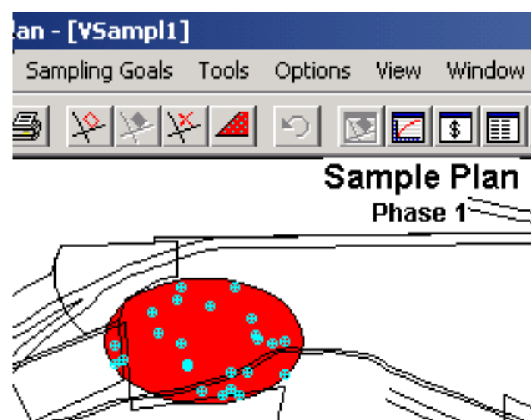
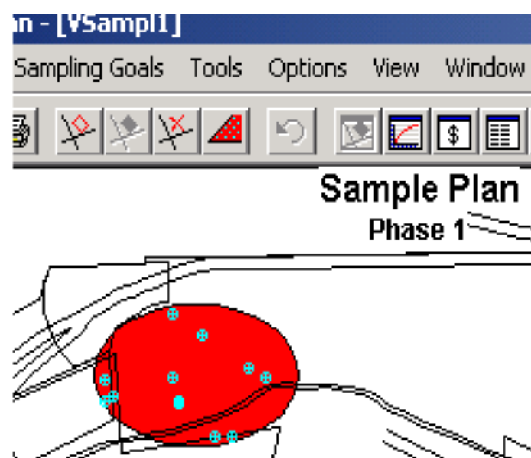

Figure 2.36 Example Sample Area with Sampling Locations
Figure 2.37 Example Study Area after Sampling
4. Choose the Main Menu; select **Sampling Goals > Compare Average to Fixed Threshold > Data not required to be normally distributed > Ordinary sampling of symmetric distribution**. Click the Apply button to place samples in the Sample Area. You should now have a Sample Area with 24 sampling locations similar to that shown in **Figure 2.36**.
7. Finally, to remove the sampling locations listed in **Remove.txt** from the Sample Area, choose Main Menu option **Map > Sample Points > Remove**. Select the file **Remove.txt** and click the **Open** button. You will see in **Figure 2.37** there now are only 16 sample points instead of the original 24 shown in **Figure 2.36**.